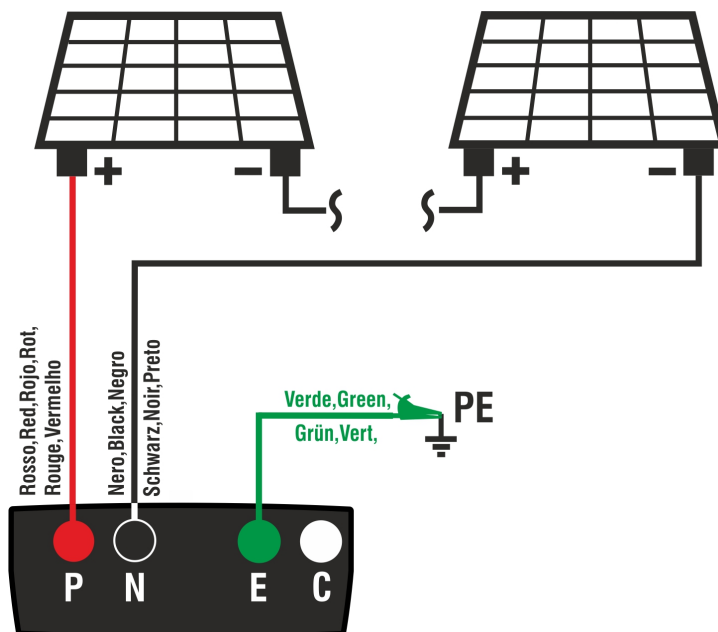

Fig. 9: Instrument connection for insulation measurement in GFL mode
8. Connect the instrument to the PV string to be tested as shown in Fig. 9. Please remember that it is also necessary to separate possible overvoltage protections connected to the cables of the string, and that it is recommended to measure upstream of possible blocking diodes.